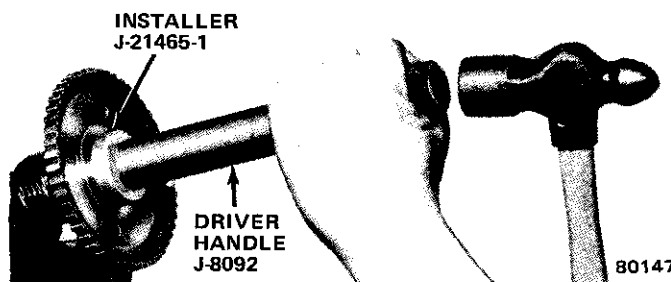

Fig. 2C-121 Output Shaft Flange Bushing Installation
(1) Mount shaft in vise (fig. 2C-122).